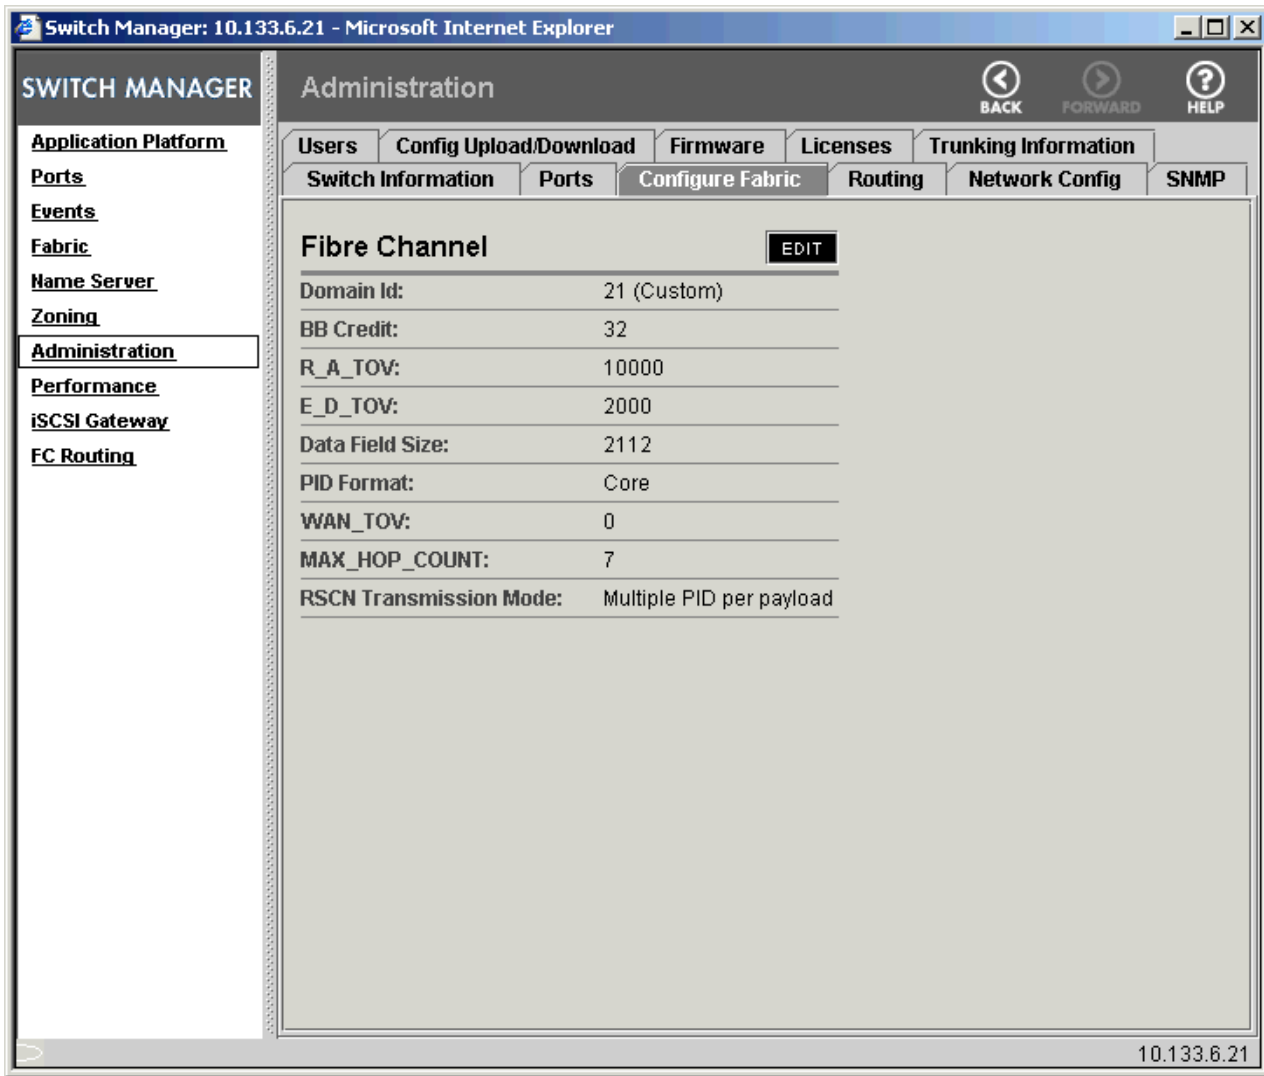

Figure 6 Administration page with Configure Fabric tab selected
The Configure Fabric tab on the Administration page (see Figure 6 on page 24) allows you to view and configure the following fabric parameters:
The system configuration settings are displayed (see Figure 6).
3. Click the **Configure Fabric** tab (see Figure 6 on page 24).